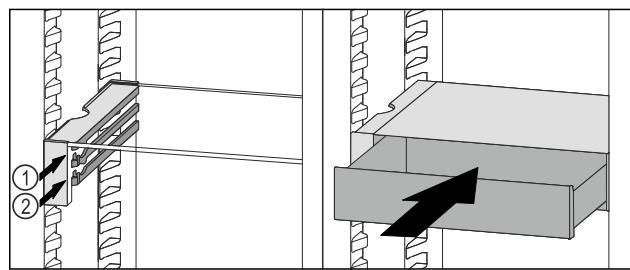

Fig. 101
- ▶ Place the VarioSafe drawer behind the stoppers on desired rib Fig. 101 (1) or Fig. 101 (2).